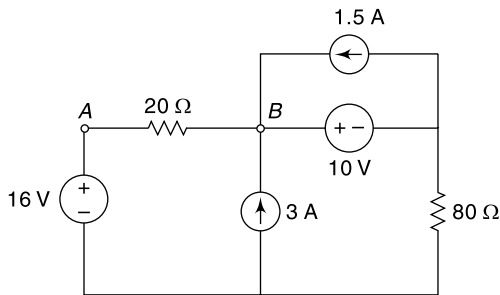

Fig. 4.136 Circuit of Ex. 4.105
4.105 Using the superposition theorem find the voltage across the $20\ \Omega$ resistor of the circuit shown in Fig. 4.136.
Let us consider that the 16 V source acts alone; removing the other sources the circuit configuration is shown in Fig. 4.136(a). The current through the $20\ \Omega$ resistor is